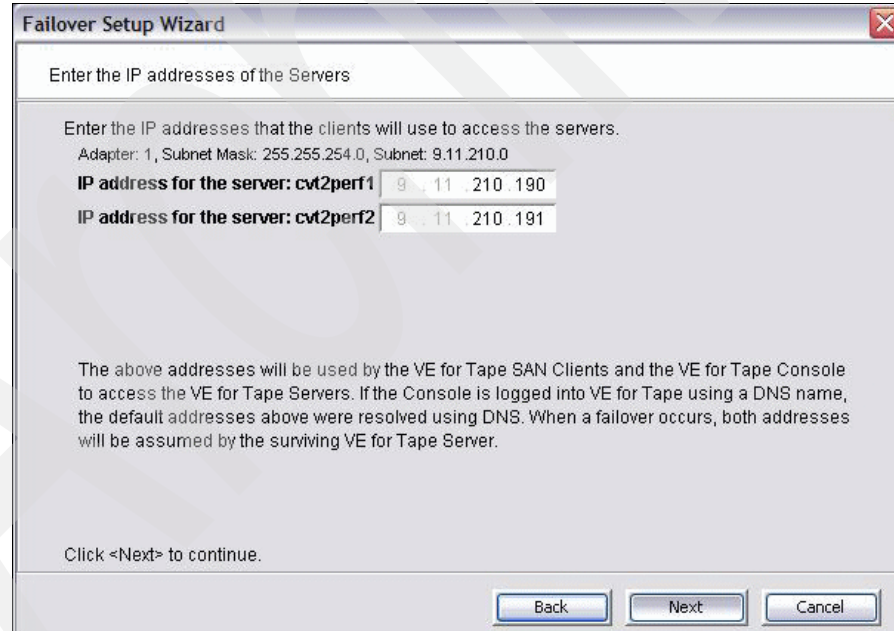

Figure 7-3 Server IP address for eth1
3. Confirm the server IP address of eth1 (adapter 1) for both TS7530 Servers, as shown in Figure 7-3. The addresses were set up during installation. See Chapter 6, “Initial setup” on page 181. Click **Next**.